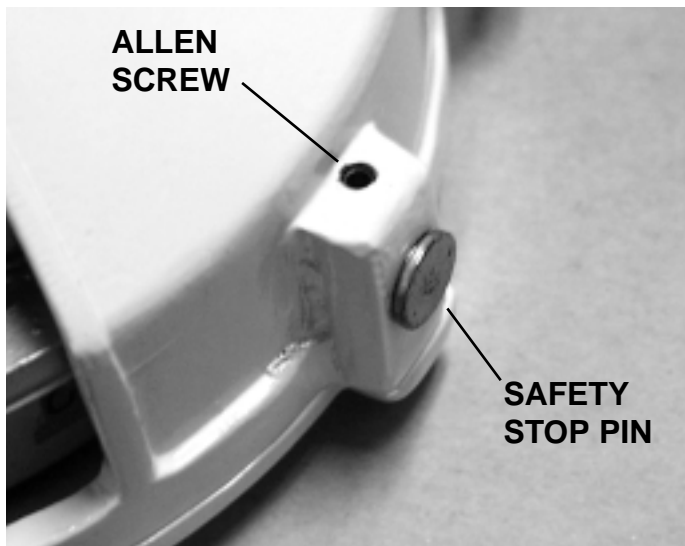

Figure 3
4. Check to make sure all four safety stop pins (Fig 3) are securely in place. Pins must be fully inserted and secured with allen screw. Replace if missing.